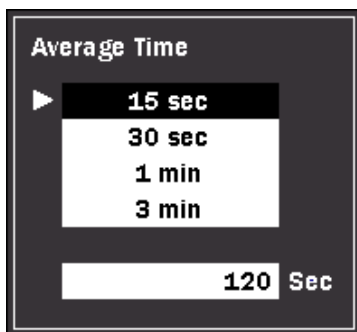

Figure 4-24: Average Time Dialog box
Specify the Average Time/Average Count by either selecting one of the four pre-set values or by entering the desired value in the field at the bottom of the dialogbox (see Figure 4-24 on page 4-71).
1. Press **Average Time (f1)**. The Average Time dialog box appears (see Figure 4-24 on page 4-71).
The “Time” and “Count” selections are available only when the language is set to Chinese and are not shown in Figure 4-24.
Use the following procedure to specify the Average Time/Average Count by either selecting one of the four pre-set values or by entering the desired value in the field at the bottom of the dialog box (see Figure 4-24 on page 4-71).